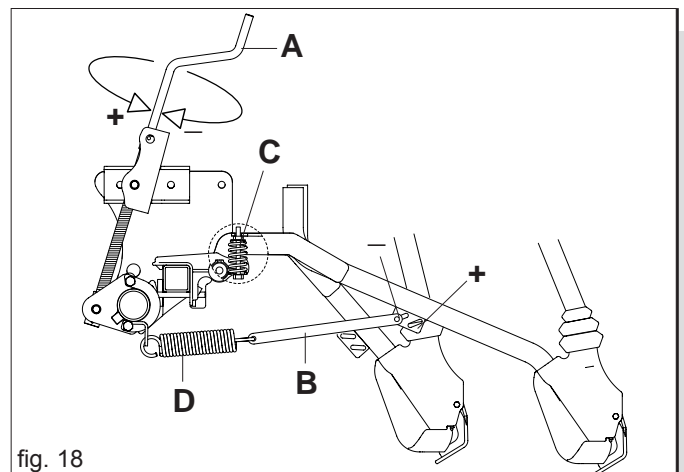

fig. 18
You can further adjust the pressure, separately, changing the position of the tie-rod (B Fig. 18).
Only with hoe coulters there's a spring (C, Fig. 18), which, when completely released, allows to reset the weight of the single spring element (D). In this situation it's possible to make superficial seedings.